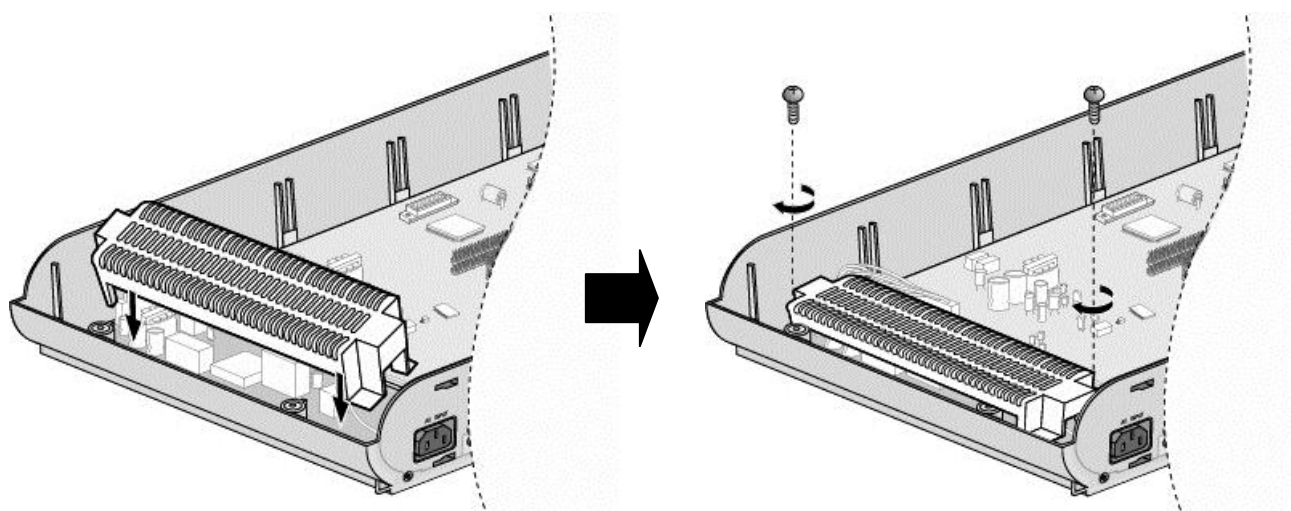

Figure 2.2.6b PSU Installation
2. Place the PSU cover on the PSU as shown in Figure 2.2.6b. Then turn the screws clockwise to tighten, and secure.